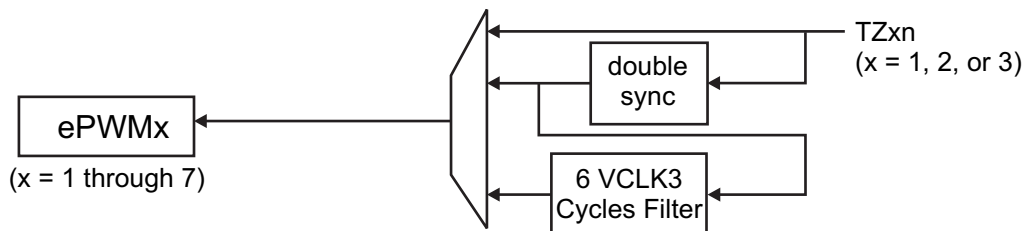

图 7-2. ePWMx Input Synchronization Selection Detail
A. For more detail on the ePWMx input synchronization selection, see 图 7-2.
图 7-2 shows the detailed input synchronization selection (asynchronous, double-synchronous, or double synchronous + filter width) for ePWMx.
These 3 trip zone inputs are driven by external circuits and are connected to device-level inputs. These signals are either connected asynchronously to the ePWMx trip zone inputs, or double-synchronized with VCLK3, or double-synchronized and then filtered with a 6-cycle VCLK3-based counter before connecting to the ePWMx (see 图 7-2). By default, the trip zone inputs are asynchronously connected to the ePWMx modules.